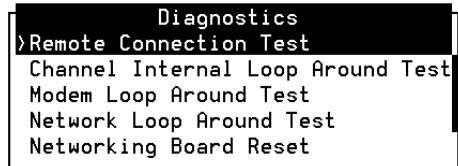

Figure 20-1. Diagnostics Menu
4. Press **DIAGNOSE** (F4) to access the Diagnostics menu as shown in Figure 20-1.